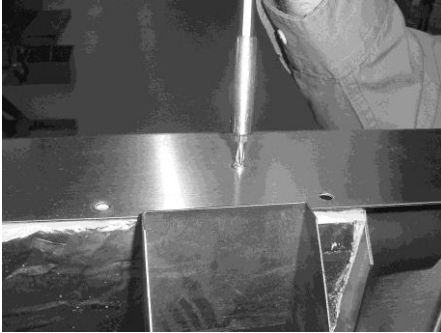

Figure 2-84
8. Remove the 2 top screws securing the support plate and remove the plate from the unit. Figure 2-84.